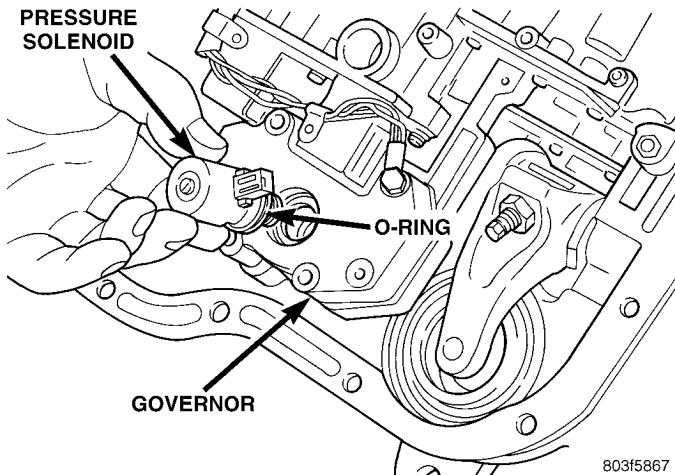
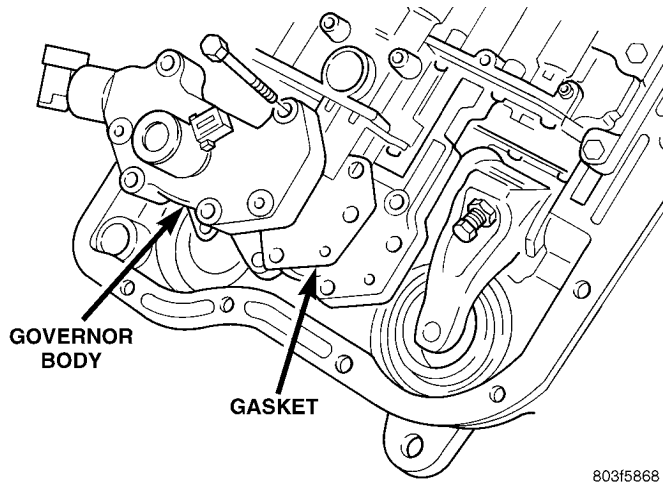
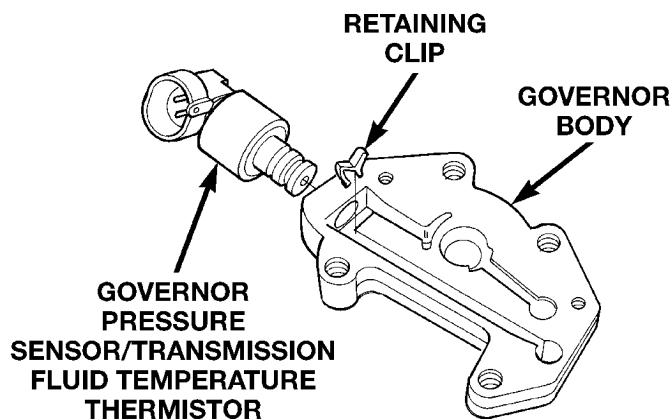

Fig. 26 Pressure Solenoid and O-ring
Fig. 27 Governor Body and Gasket
Fig. 28 Pressure Sensor and Retainer
- (6) Pull solenoid from governor body (Fig. 26).
- (7) Remove bolts holding governor body to valve body.
- (8) Separate governor body from valve body (Fig. 27).
- (9) Remove governor body gasket.
- (10) Remove retainer holding pressure sensor to governor body.
- (11) Pull pressure sensor from governor body (Fig. 28).
- (1) Lubricate O-ring on pressure sensor with transmission fluid.
- (2) Align pressure sensor to bore in governor body (Fig. 28).
- (3) Push pressure sensor into governor body.
- (4) Install retainer to hold pressure sensor to governor body.
- (5) Place gasket in position on back of governor body (Fig. 27).
- (6) Place governor body in position on valve body.
- (7) Install bolts to hold governor body to valve body.
- (8) Lubricate O-ring, on pressure solenoid, with transmission fluid.
- (9) Align pressure solenoid to bore in governor body (Fig. 26).
- (10) Push solenoid into governor body.